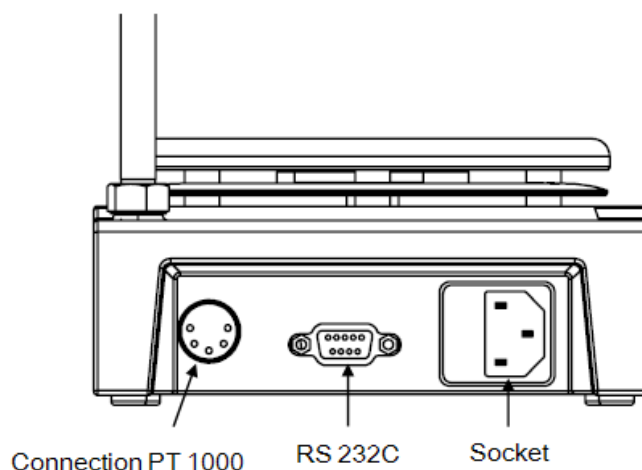

Figure 8
- Ensure the external temperature sensors are firmly connected and submerged into the media before heating (fig. 8).
- The interface line's functions between the laboratory equipment and the PC are selected from the specified signals according to the EIA- RS232C, corresponding with DIN66020 Part 1. The location of the connector can be seen in Figure 8